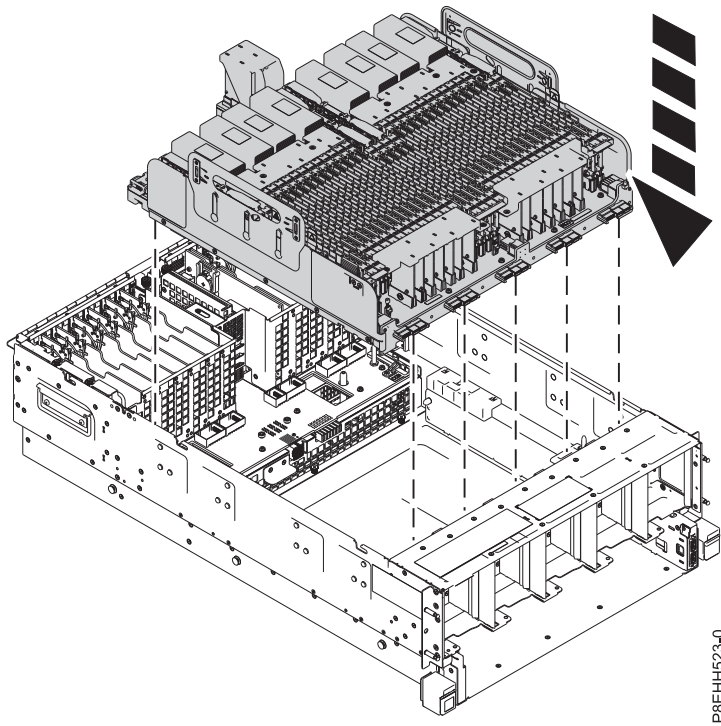

Figure 25. Replacing the system backplane
- a. Lower the system backplane into the system by using the handles on the side of the backplane as shown in Figure 25 on page 23.